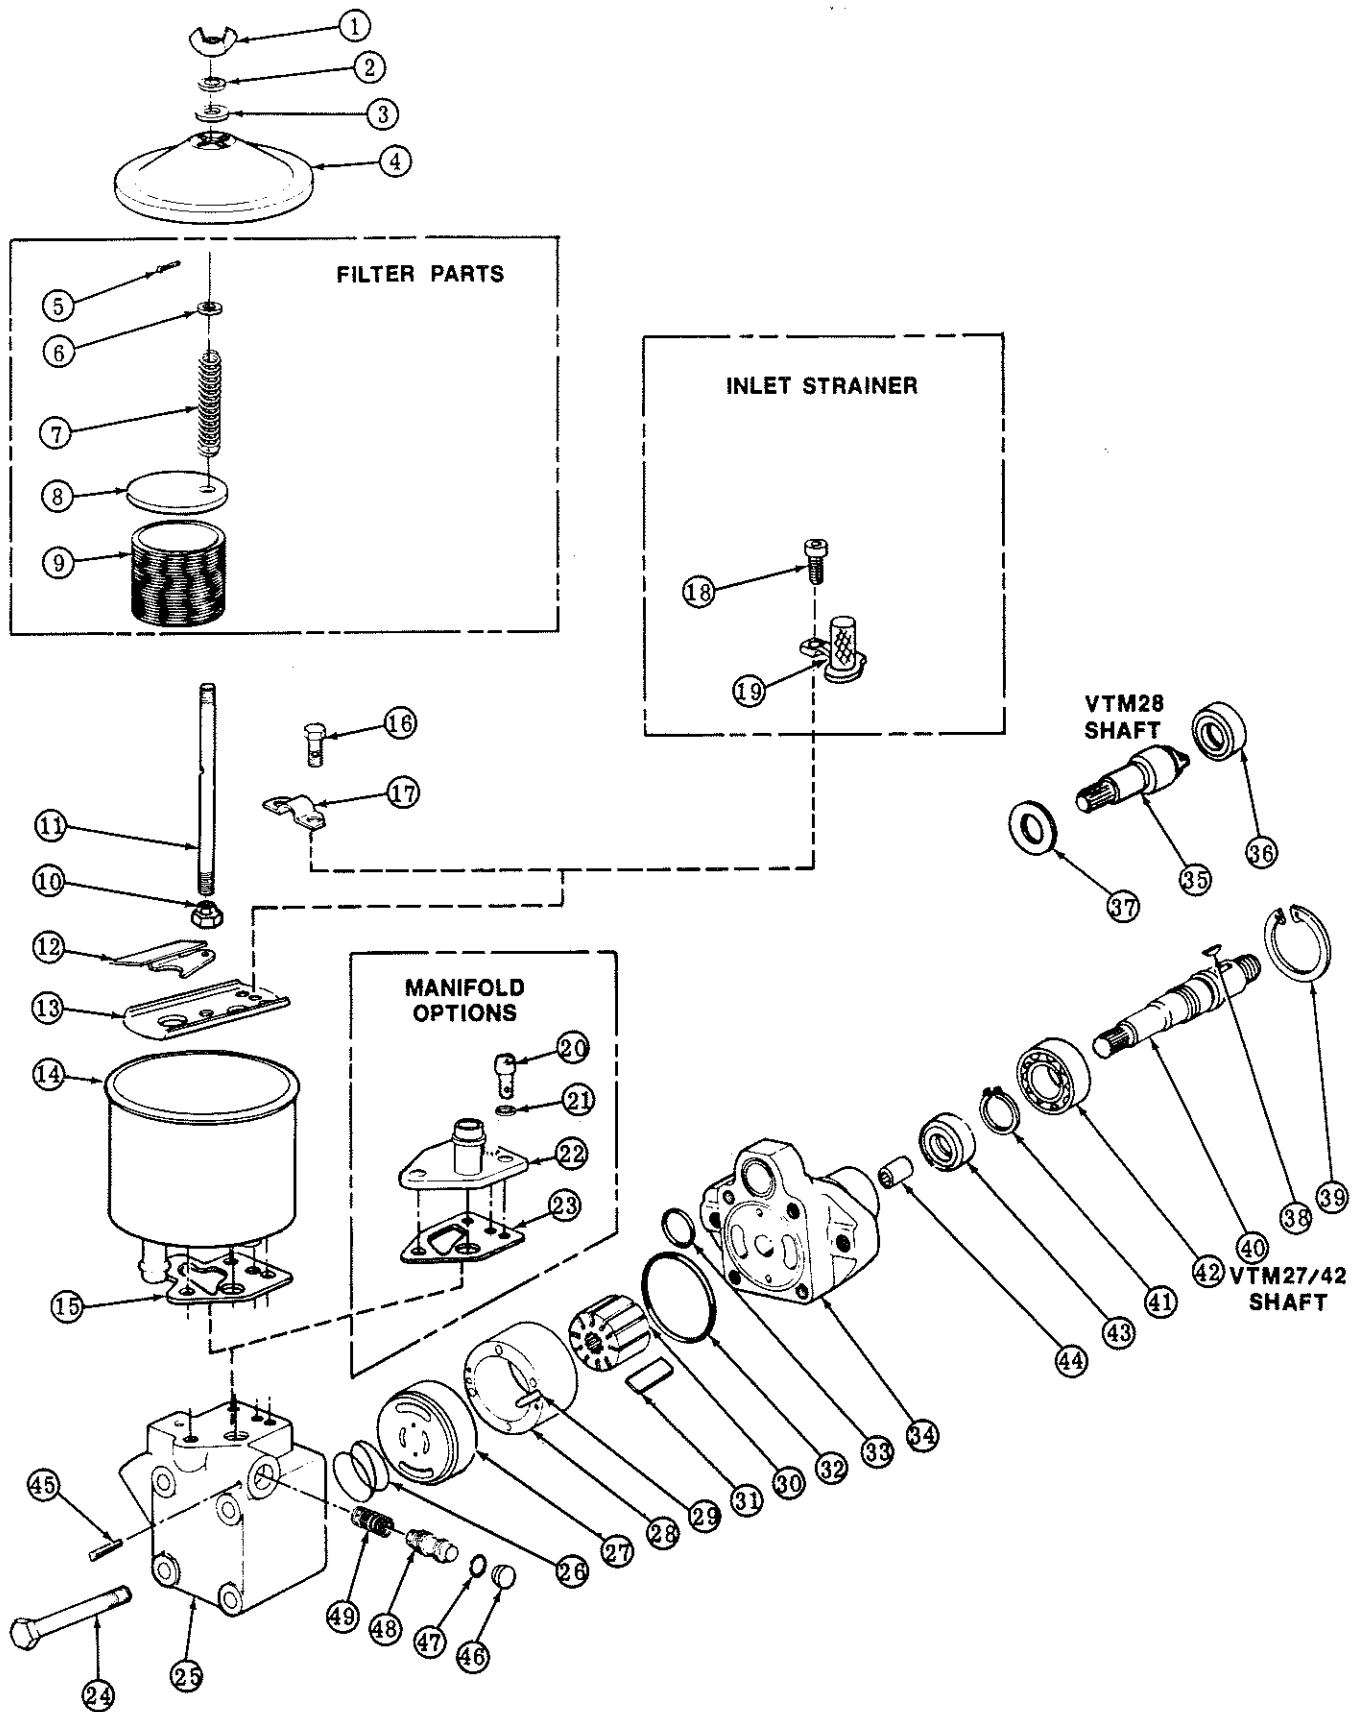

Figure 8. VTM 27/28/42 Exploded View
4. VTM27, VTM28 and VTM42 Pump Series Disassembly (Refer to Figure 8).
a. Drain reservoir and clamp mounting flange of body (34) into a bench vise with reservoir up. Remove wing nut (1), washer (2), seal washer (3) and reservoir cover (4).